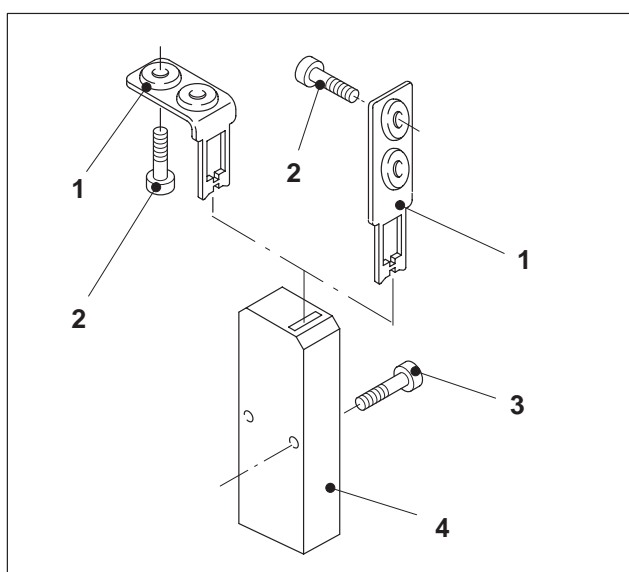

Fig. 6 Key switch with angular or straight key
- 1 Replace and adjust the switch casing (Fig. 6/4). Secure the new switch casing with Allen screws (Fig. 6/3).
- 2 Replace the key (Fig. 6/1) and secure the new key with Allen screws (Fig. 6/2). Once you have replaced the key, moisten the Allen screws with thread glue SN 604-S1 and tighten them.